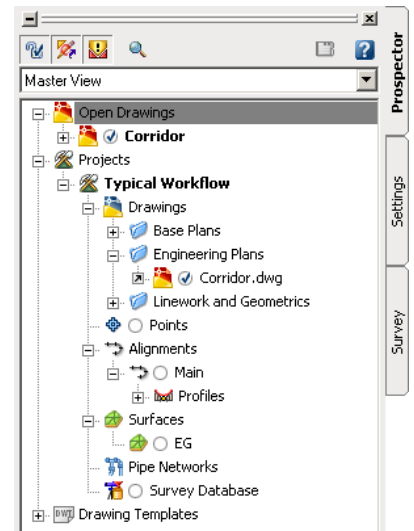

Figure 17. Project tree in the Prospector Toolspace showing a corridor drawing in the Engineering Plans folder.
1. Create a new drawing and add it to the project. Once a drawing has been added to your project, it will appear on the project tree in the Prospector tab of the Toolspace. For this example, we will store the corridor drawing in a folder called Engineering Plans as shown in Figure 17. Each project will contain collections of objects. For example, alignments will be in the alignment collection, surfaces in the surfaces collection, etc.